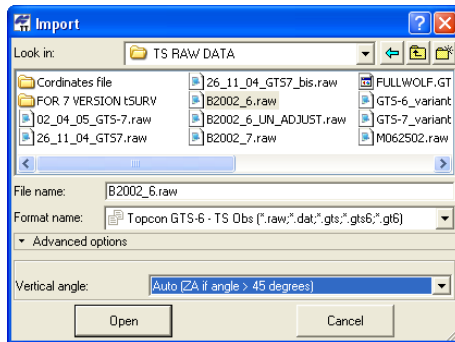

Figure 3-25. Import TS Obs File
5. Click **Open** to import the file (Figure 3-25).